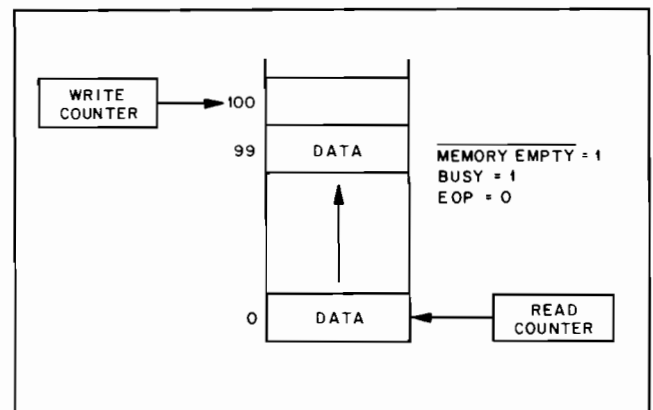

Figure 4-4. Memory after Writing 100 Words and No Words Read.
- e. After 100 data words are written to memory, the counters have the values as shown in Figure 4-4.